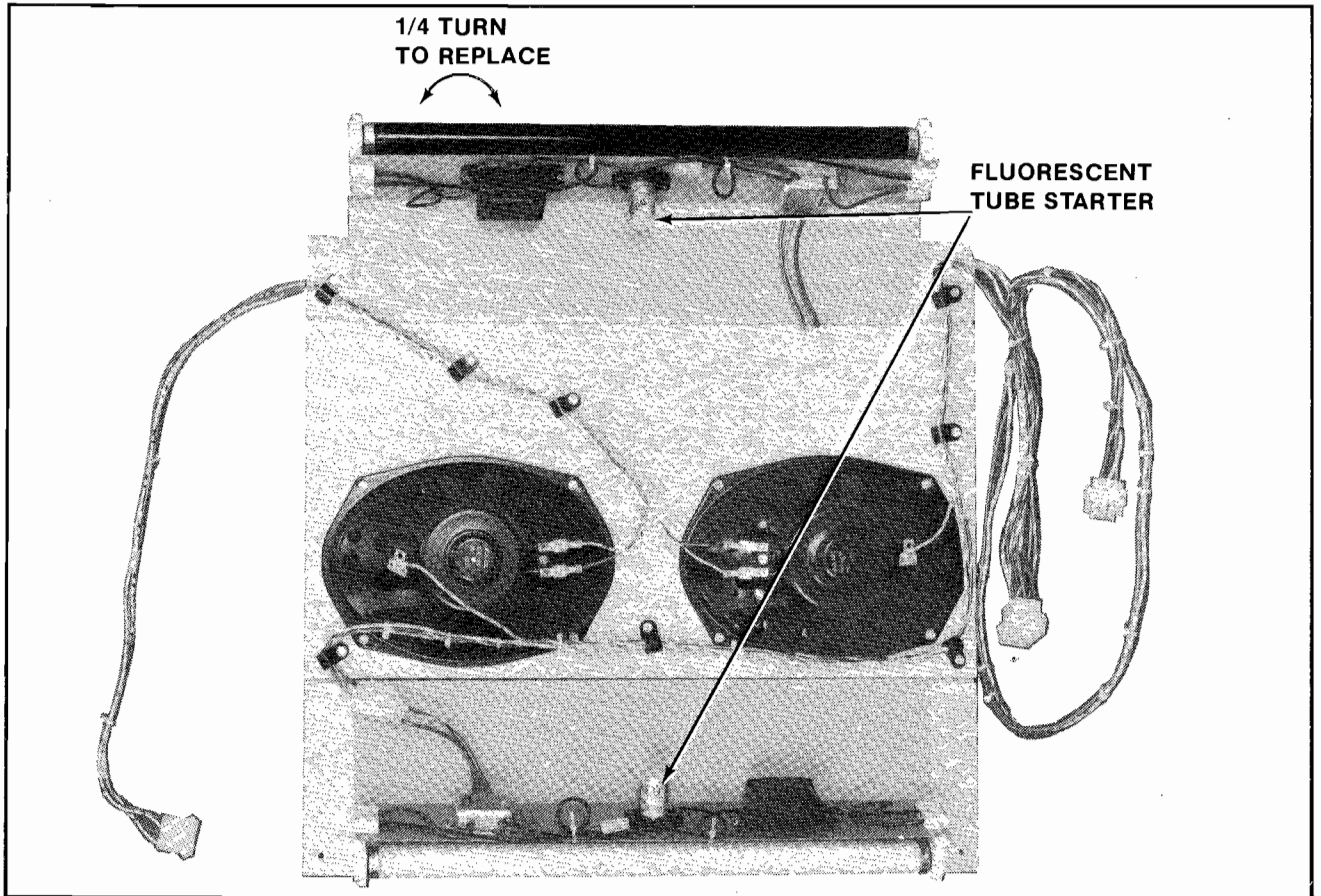

Figure 4-15 Replacing Fluorescent Tube Starter
- Replacing the fluorescent light tube starter. See Figure 4-15.
- Replacing the ultraviolet light tube starter. See Figure 4-15.